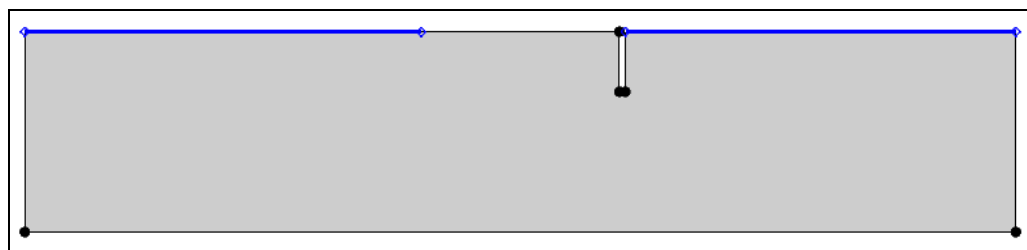

Figure 12 Constant-head boundaries marked in blue
5. Click **OK** to exit the *Attribute Table* dialog. Notice that the arc is now blue, indicating a constant-head boundary condition (Figure 12).